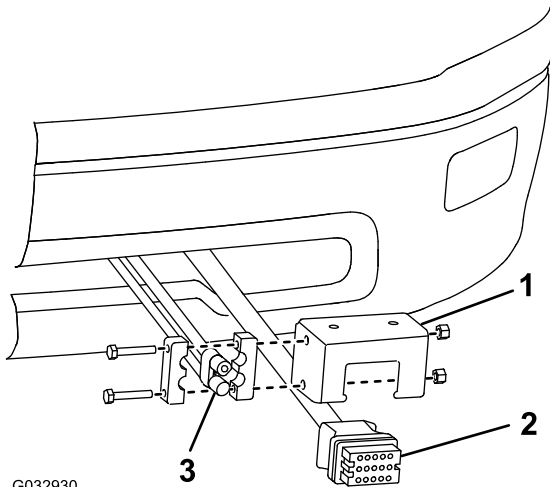

Figure 22
- 27. Mount the truck-side, wire harness plow connector to the lower part of the bumper using the control harness mounting bracket (Figure 22).
- 28. Mount the black and red power/ground connector to the control harness mounting bracket (Figure 22).